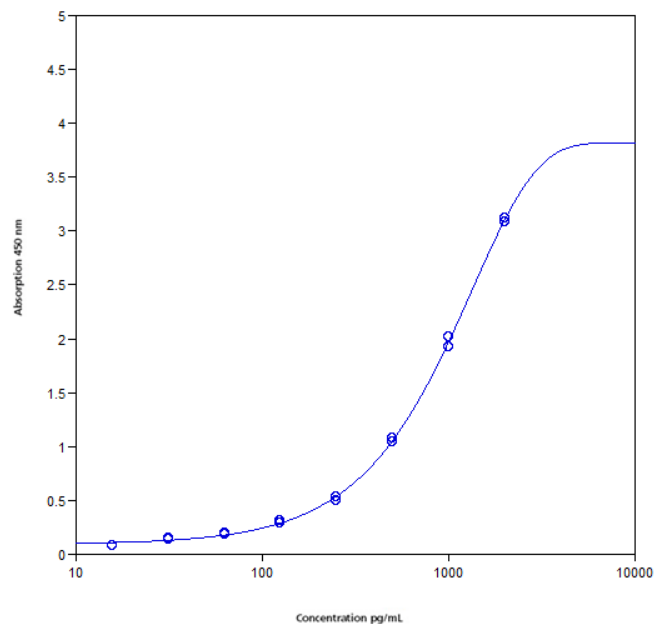

Fig. 8 Representative standard curve for Human AXL ELISA Kit. Human AXL was diluted in serial 2-fold steps in Sample Diluent.
- A representative standard curve is shown in Figure 8.